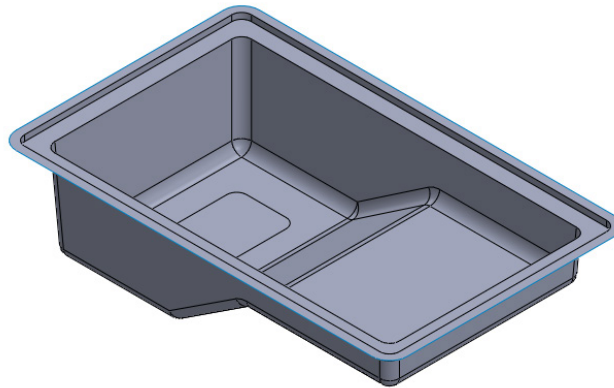

Figure 21-40 Resultant knitted surface after hiding the plastic cover
7. Select the Plastic Cover from the **FeatureManager Design Tree** and invoke the shortcut menu. Choose the **Hide Components** option from the shortcut menu. The resultant surface body is displayed in Figure 21-40.